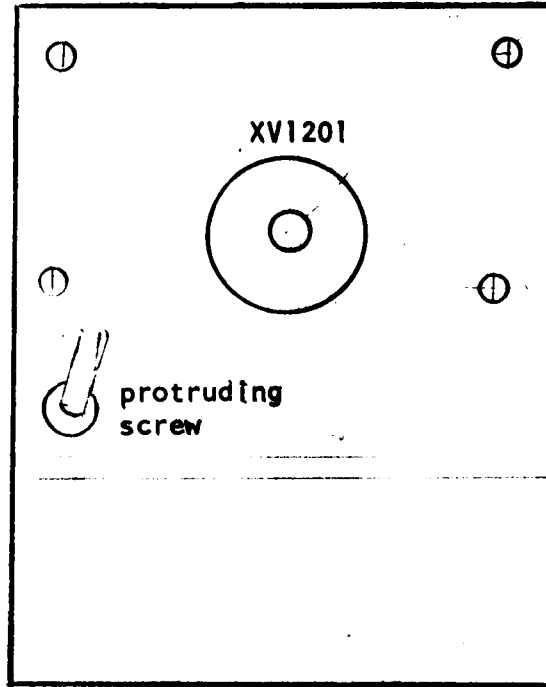

Figure 1
C. Refer to Figures 1 and 2 and remove screw as indicated on figures. Save lockwasher and discard screw.